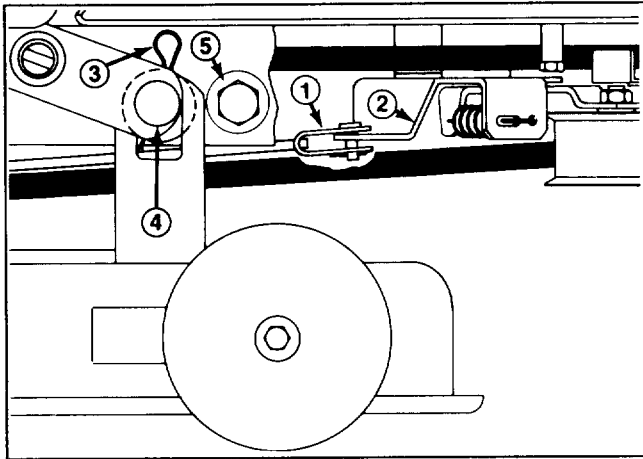

Figure 19
9. Remove cotter pin and clevis pin securing deck brake rod to idler bracket (Fig. 19).
10. Remove (2) hairpin cotters and washers retaining mower housing to mounting pins (Fig. 19). Grasp mower housing and move it to the side until housing slides off pins, then forward to allow front mounts to drop.
5. Remove capscrews, retainers and locknuts securing deck stops to each side of mower frame (Fig. 19). Slide mower housing rearward to release belt tension.